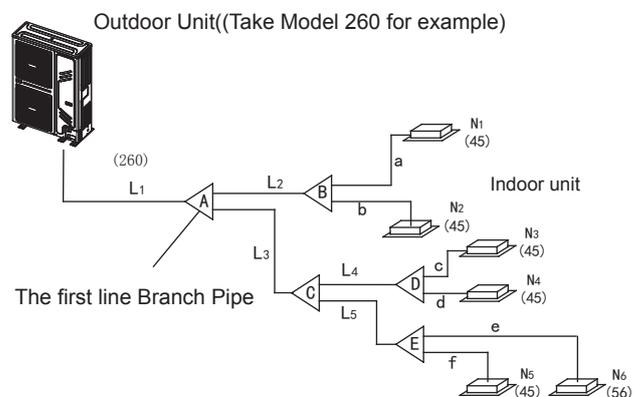

Fig. 4-6
- Main pipe (Please refer to Fig.4-6 and Table 4-4)
In Fig.4-6, the main pipe L1, the outdoor unit capacity is 26kW, and check the Fig.4-6 to get the size of gas pipe/liquid pipe is  $\Phi 22.2/\Phi 9.5$ , and also the total equivalent length of liquid side and gas side pipes is  $> 90\text{m}$ , then check the Table 4-4 to get the size of gas pipe/liquid pipe is  $\Phi 25.4/\Phi 9.5$ , and according to the maximum value principle, it should apply the  $\Phi 25.4/\Phi 9.5$ .